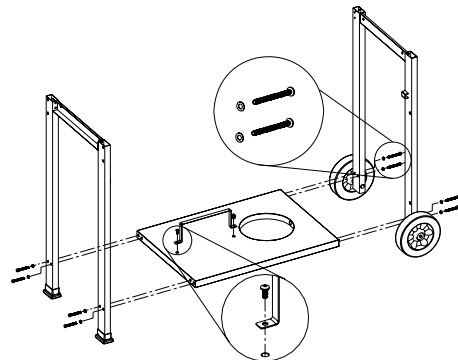

Figure 3
3. Assemble cart leg with bottom panel using (8) 1/4 x 3/5" Phillips head screw with (8) 1/4" lock washers for each leg. Attached the tank barrier using (2) 1/4 x 3/5" Phillips head screw and (2) 1/4" lock washers. (Fig.3)